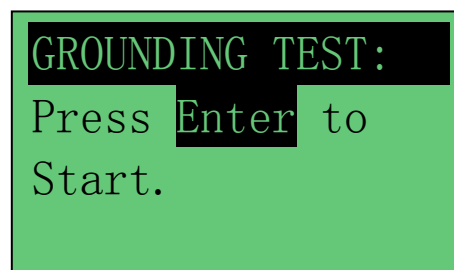

Figure 32
5. Press  key will proceed to the display as follows: (Fig. 32)